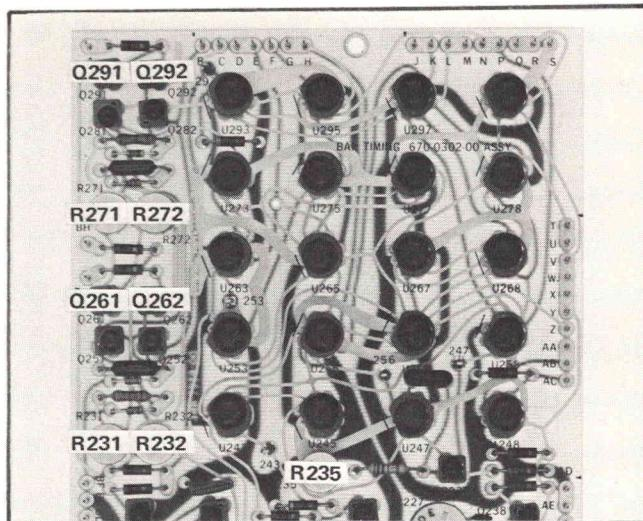

Fig. 5-33. Bar Timing board adjustment and transistor locations.
k. Remove Q261; see Fig. 5-33.
I. ADJUST—R235 (see Fig. 5-33) until the 50% point on the green-magenta transition is at the same point as the reference established in part h.